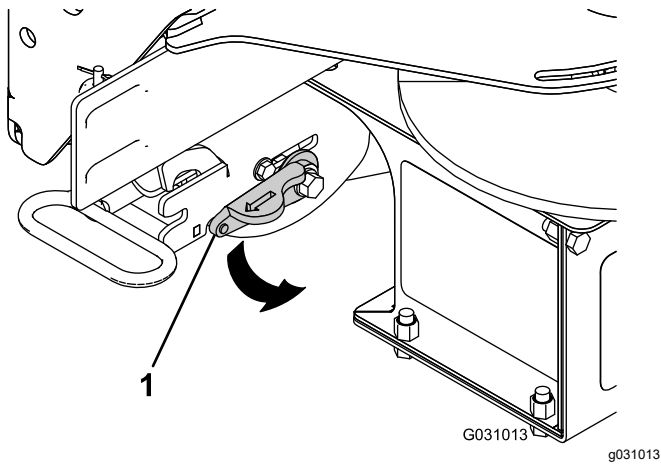

Figure 20
2. Rotate the locking lever on the RT3 attachment to the LOCK position (Figure 20).